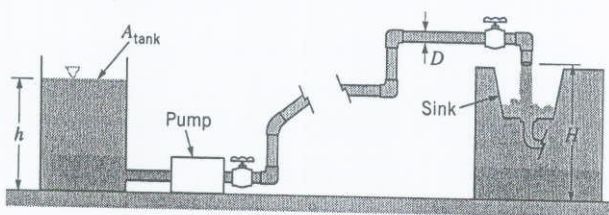

FIGURE P8.129
**Objective:** The rate of flow of water pumped from a tank is a function of the pump properties and of the pipe system used. The purpose of this experiment is to use a pump and pipe system as shown schematically in Fig. P8.129 to investigate the rate at which the water is pumped from the tank.